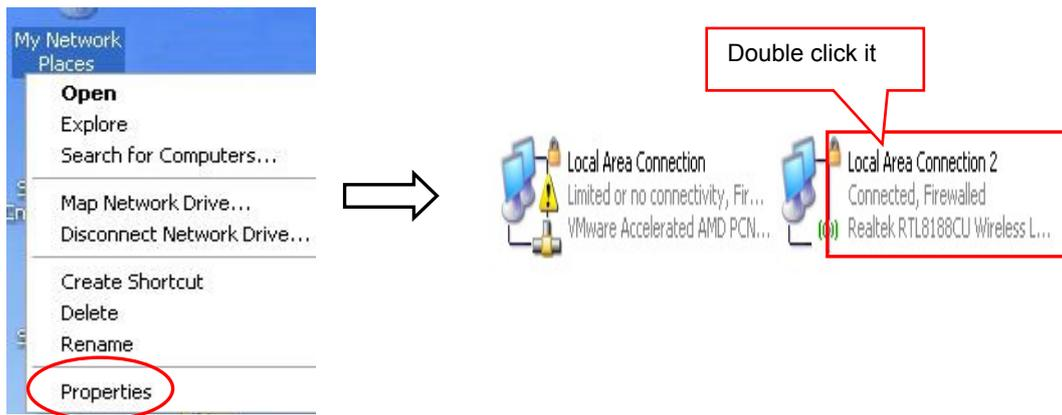

Figure 8
- (1) Get the security mode and encrypt type according to the corresponding network information given by the network administrator.
- (2) Find them by entering the router of hotspot with the administrator's account.
- (3) Find them through Windows operating system and the steps are shown below (Take WIN XP as an example):
- ① Right click “My Network Places”, and click “Properties”, then double click “Local Area Connection 2” (as shown in Figure 8).